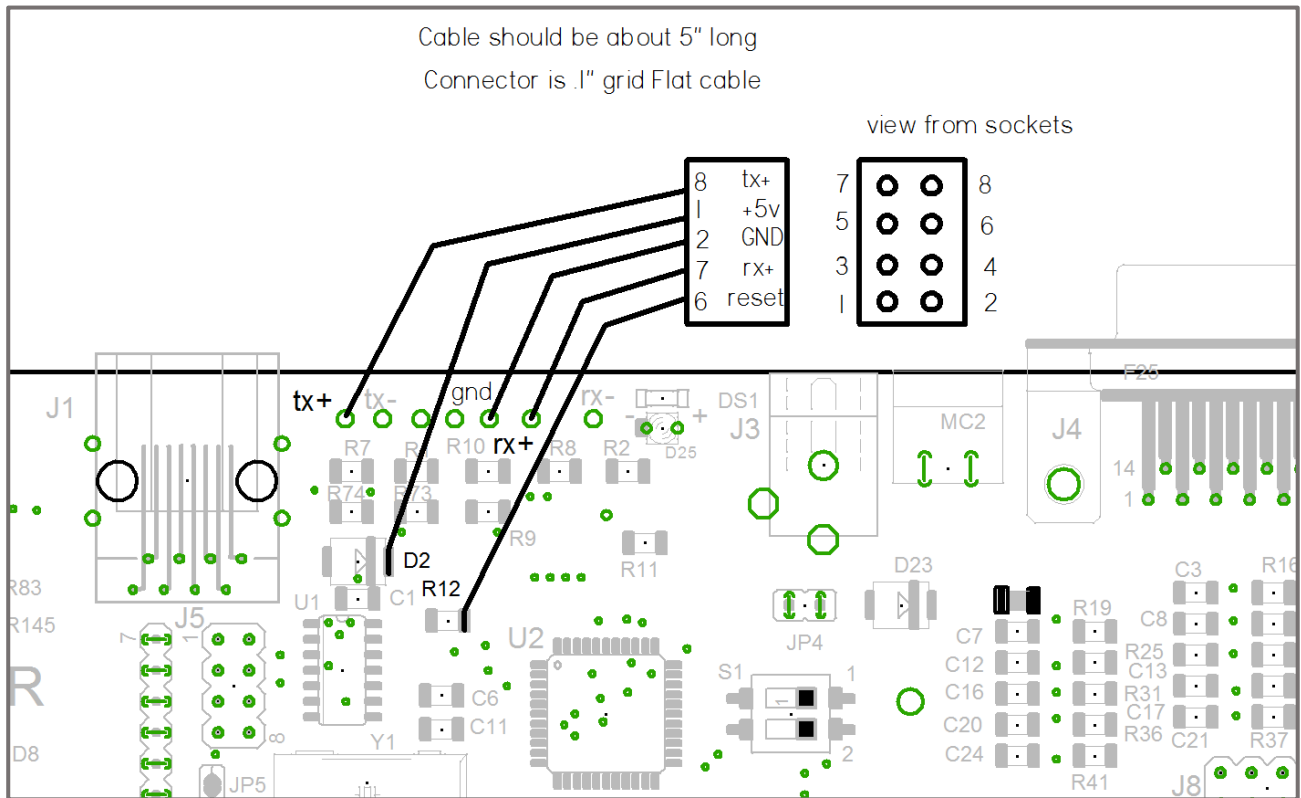
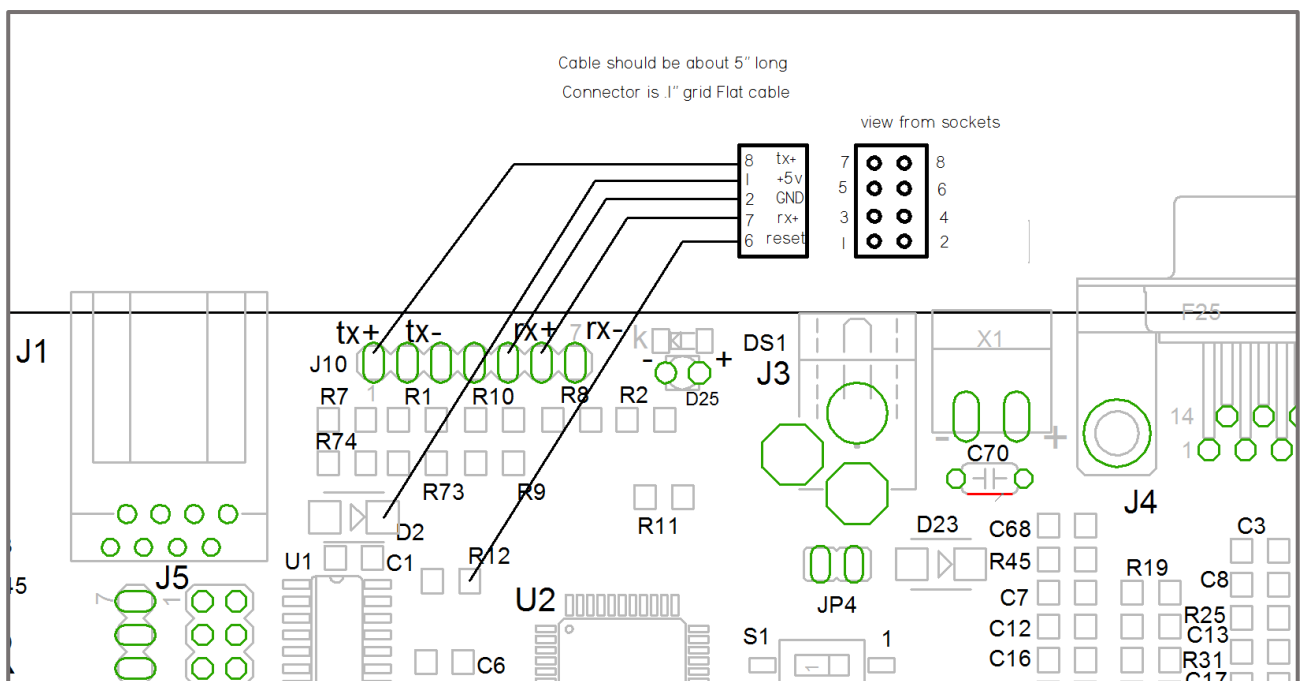

Fig. 5 ALP driver board pad locations.
Fig. 6 Standard driver board pad locations.
Step 8: Solder the ribbon cable to the driver board based on the schematics below. The specific connections are shown in Figure 5 and Figure 6. *Note: If you have an ALP driver board, refer to Figure 5. Refer to Figure 6 if you have a standard driver board.*